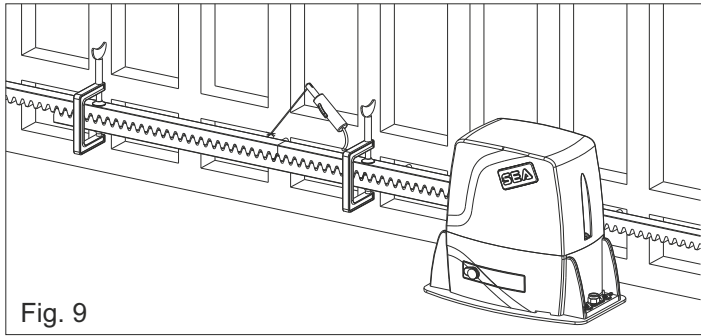

Fig. 9
**5.4.** Make sure that all the gear rack elements are perfectly aligned and correctly placed (teeth must be in phase). It's suggested to oppose an element to two aligned elements as shown in Fig. 9;